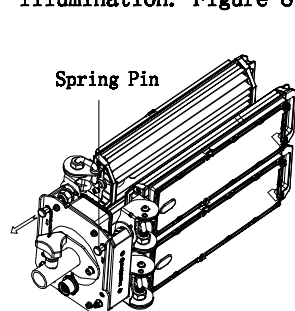
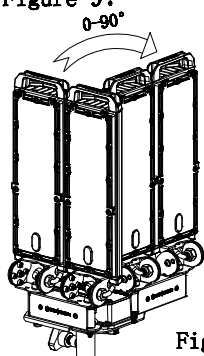

Figure 8
Figure 9
- (1) After pulling down the spring pin, the two lights modules can achieve 0-90° adjustable illumination. Figure 8 and Figure 9!